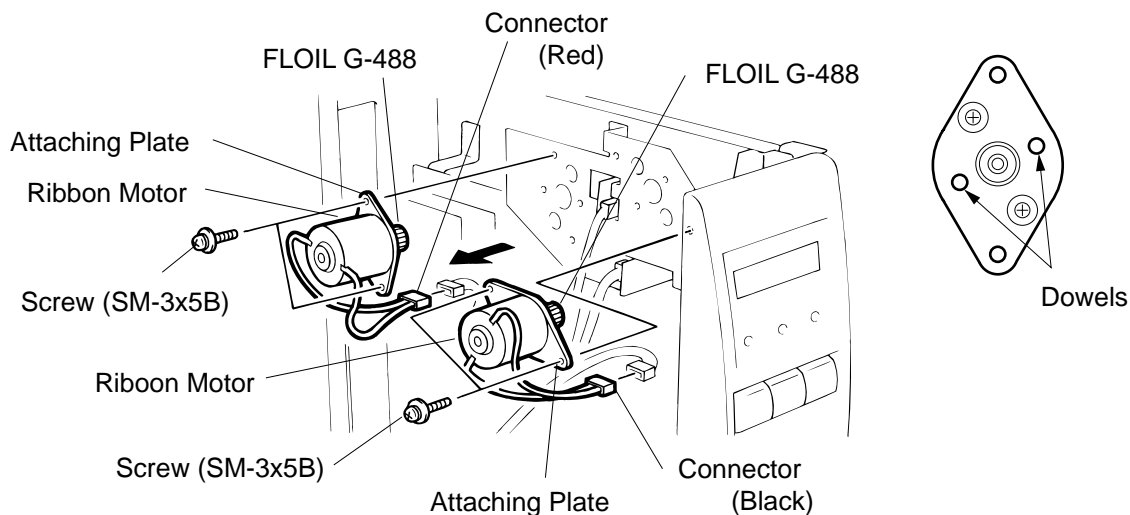

Fig. 2-7
1. *NEVER* separate the ribbon motors from the attaching plate (bracket), because doing so will change their adjustment. (See Fig. 2-7)